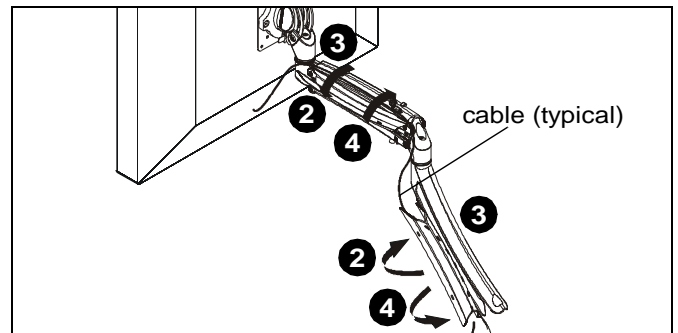

Figure 29
3. Route cables through cable management channels. (See Figure 29)
4. Close cable management covers on monitor arm. (See Figure 29)